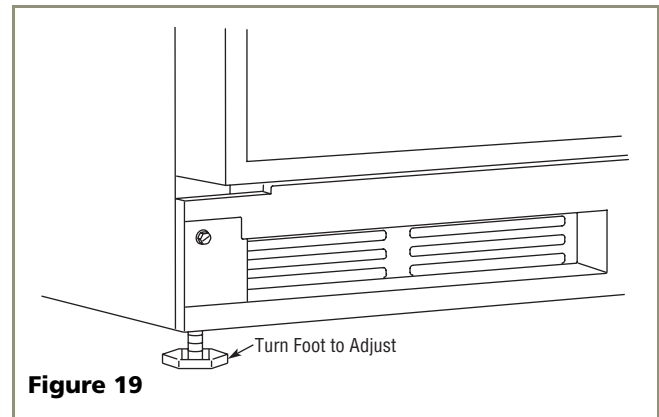

Figure 19
2. If the unit is not level, adjust the feet on the corners of the unit as necessary (see **Figure 19**).